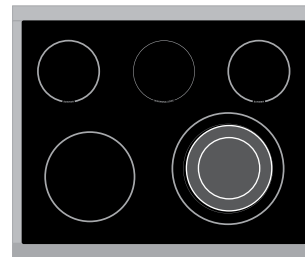
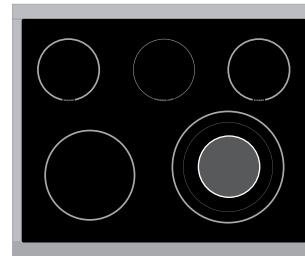

Figure 2 - Heating with the two inner portions*
Figure 3 - Heating with inner portion only*
2. Push in and turn the surface control knob clockwise to begin heating all, the inner, middle and outer portions of the element (Marked triple - see figure 1). If the two inner heating portions are needed turn the knob at position marked dual (Marked dual - see figure 2). If only inner heating portion is needed for smaller cookware, push in and turn the knob counterclockwise (Marked inner - see figure 3).